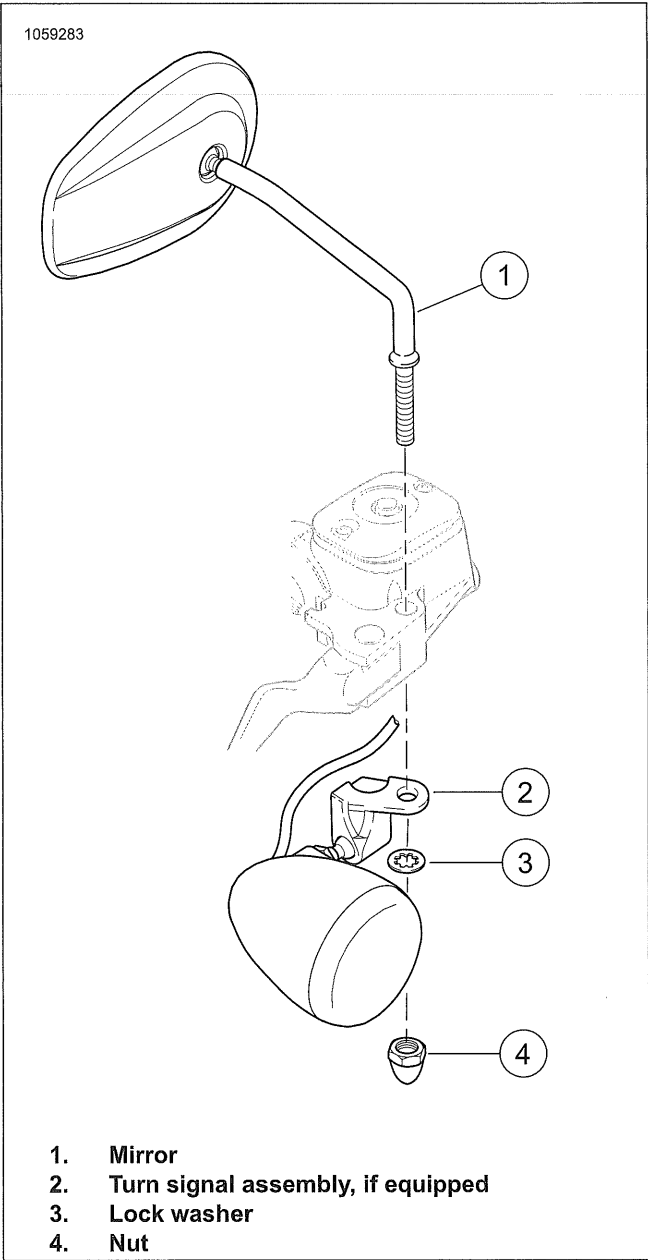

Figure 3-114. Mirror Mount (Typical)
- 1. See Figure 3-114. Support turn signal assembly (2), if equipped.
- 2. Remove nut (4) and washer (3).
- 3. Remove mirror (1).
- 1. See Figure 3-114. Insert threaded stem of mirror into hole in clutch or brake lever bracket.
- 2. Install turn signal (2), if equipped.
- 3. Install washer (3) and nut (4).